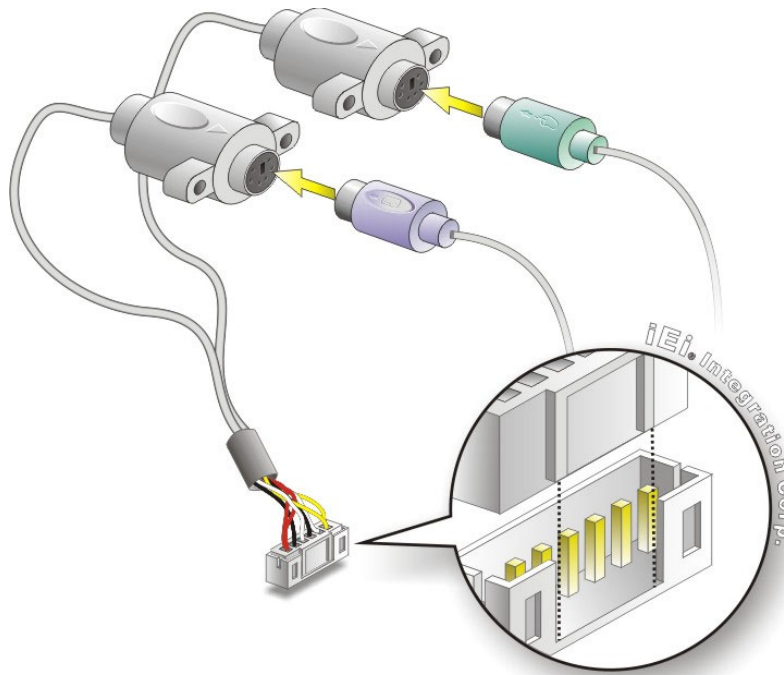

Figure 4-12: Keyboard/mouse Y-cable Connection
Step 2: Align the connectors. Correctly align pin 1 on the cable connector with pin 1 on the NANO-CV-D25501/N26001 keyboard/mouse connector. See **Figure 4-12**.
Step 3: Insert the cable connectors. Once the cable connector is properly aligned with the keyboard/mouse connector on the NANO-CV-D25501/N26001, connect the cable connector to the on-board connectors. See **Figure 4-12**.